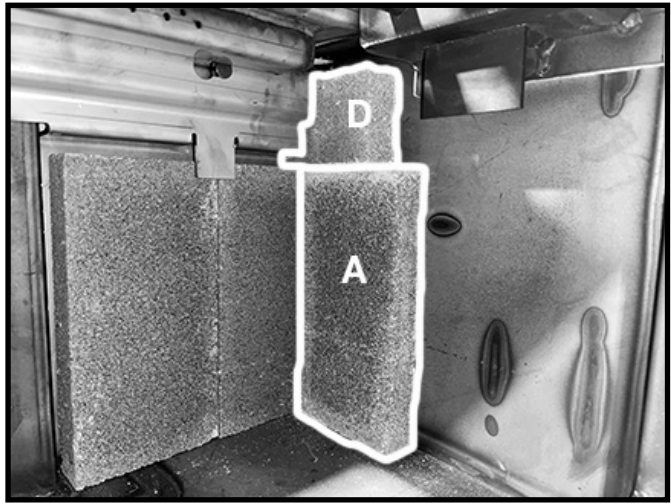

Figure 15. 1st side wall bricks in place.
4. For the side walls: Slide a "D" firebrick up into the back corner of the firebox then, while holding it in place, stand an "A" firebrick against the side wall under the "D" firebrick and up against the rear wall firebrick Figure 15.